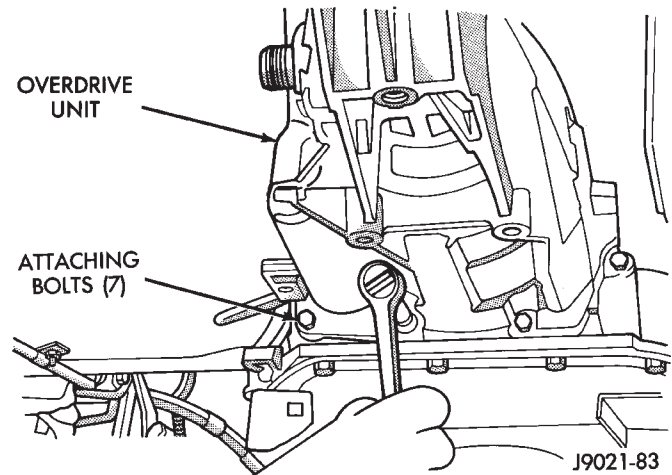

Fig. 43 Overdrive Unit Bolts—Typical
- (1) Shift transmission into Park.
- (2) Raise vehicle.
- (3) Remove the transfer case.
- (4) Disengage the wiring connector from the output shaft speed sensor.
(5) Remove transmission oil pan, remove gasket, drain oil and reinstall pan.
(6) If overdrive unit had malfunctioned, or if fluid is contaminated, remove entire transmission. If diagnosis indicated overdrive problems only, remove just the overdrive unit.
(7) Support transmission with transmission jack.
(8) Remove bolts holding the overdrive unit to the transmission rear support.
(9) Remove bolts attaching overdrive unit to transmission (Fig. 43).